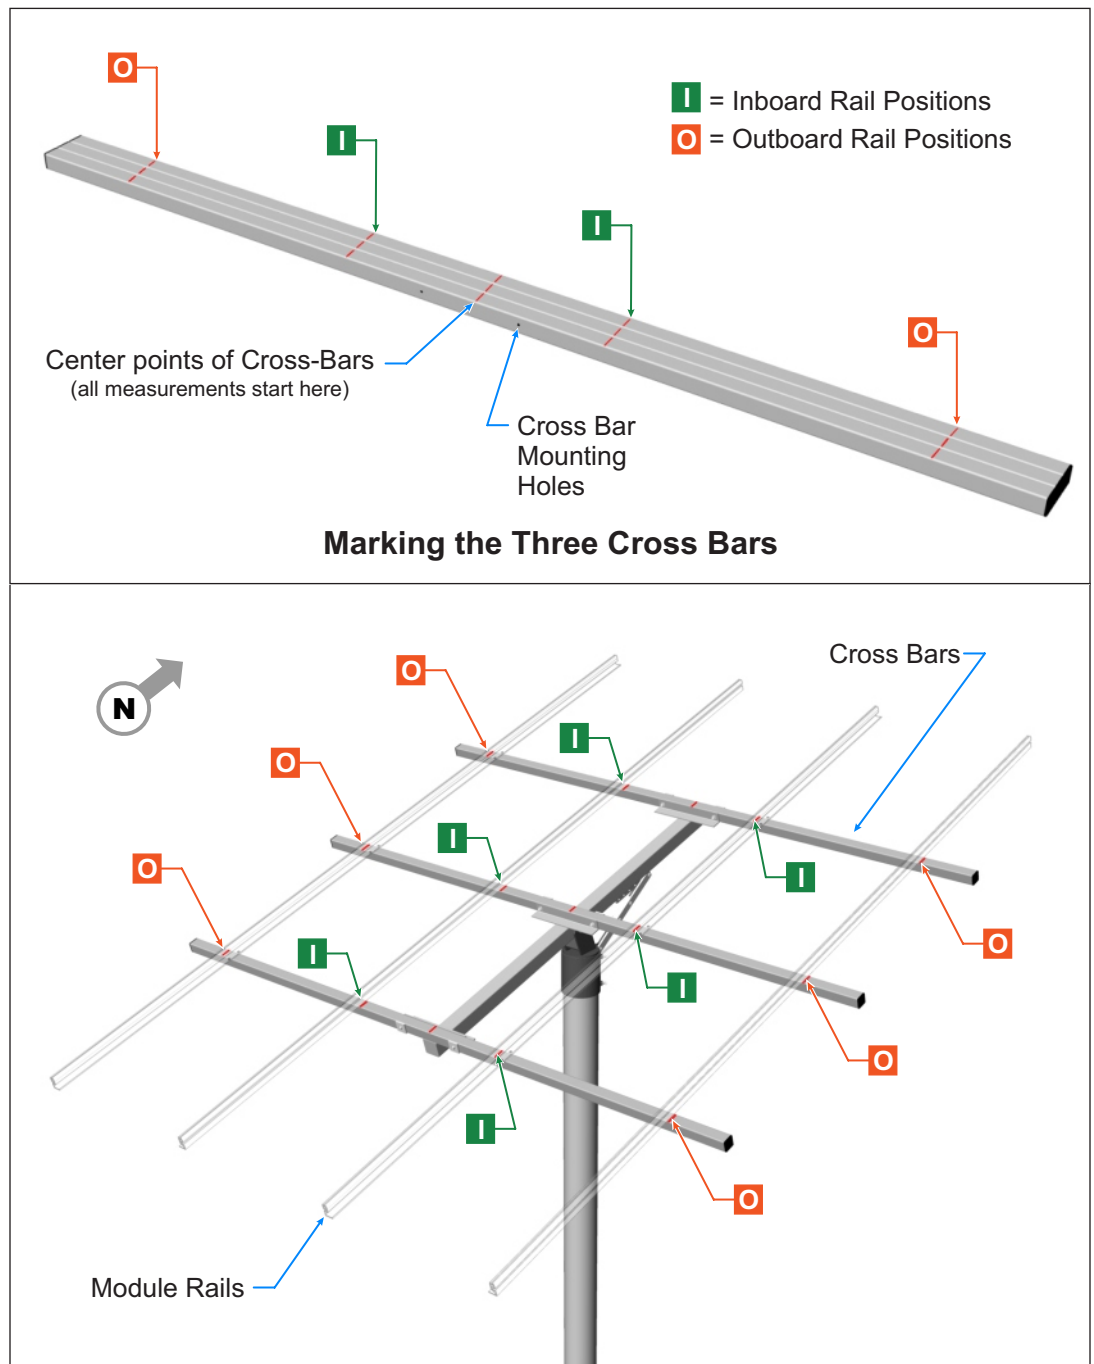

Figure 2-2: Marking the Cross-Bars for Module Rail Positioning
The following instructions provide information on precisely calculating, measuring and marking the Module Rail positions on the three Cross Bars. Figure 2-2 indicates where the markings (defined here as positions “I” and “O”) are located on the Cross-Bars. These marks facilitate the precise E-W positioning of the Rails.
- Complete the two equations resulting in factors I and O. These factors are the dimensions used to mark the Rail positions on the Cross Bars as shown in Figure 2-2.
Collect the three Cross Bars and prepare to mark them by setting them side by side with their ends aligned and their mounting holes oriented as shown in Figure 2-2.